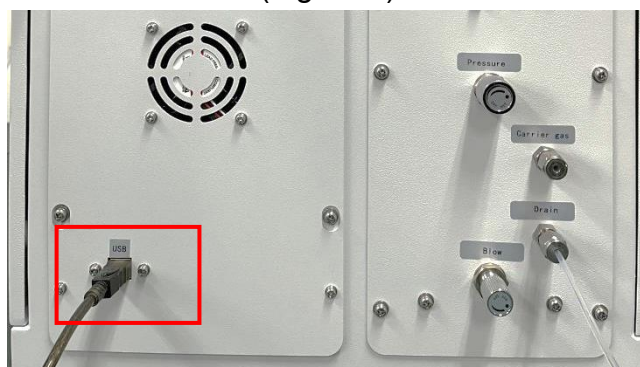

Fig. 3.31
1) Connect the USB cable respectively to the instrument and computer, and switch on the power of the instrument (Fig.3.31).